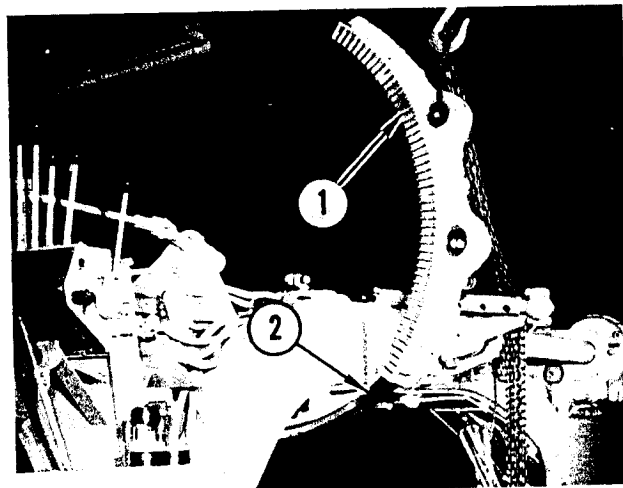

FIGURE 32. RACK REMOVAL
Start engine. Using lateral shift control lever shift rack (1) to either right or left until a sling can be installed in ball stud bore of rack. Attach hoist to sling. Continue operating lateral shift and also take up on hoist until rack is free of pinion. See Figure 32. Slide rack off of rail (2) and lower to work bench for disassembly.